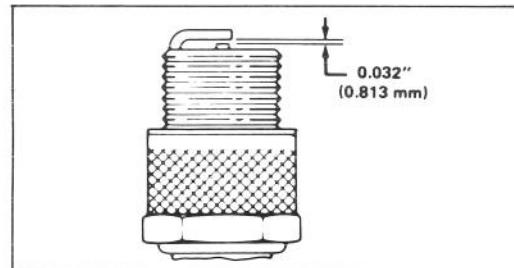

Figure 16
- Set air gap at 0.032" (0.813 mm) (Fig. 16). Install correctly gapped spark plug and gasket seal. Tighten plug firmly to 15 ft-lb (20.4 N-m).